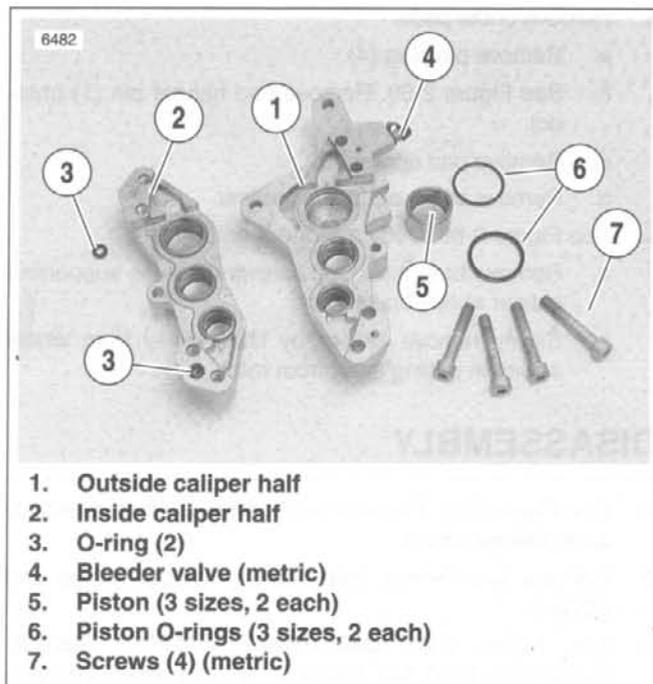

Figure 2-71. Caliper O-rings and Pistons
4. See Figure 2-71. Pry O-rings (6) out of their respective grooves on each side of caliper. Discard O-rings.
5. Check bleeder valve (4) (metric). Remove and replace if damaged.
1. See Figure 2-71. Install pistons and O-rings.
- b. Install two **new** O-rings (6) in grooves of each piston bore.
- c. Install pistons (5) in each piston bore.
2. Install two **new** O-rings (3) between caliper halves.
3. Attach caliper halves together with four screws (7) (metric). Tighten to 14.5-18 ft-lbs (19.6-24.4 Nm).
4. Install a **new** bleeder valve (4) (metric) if necessary. Tighten to 3-5 ft-lbs (4.1-6.8 Nm).